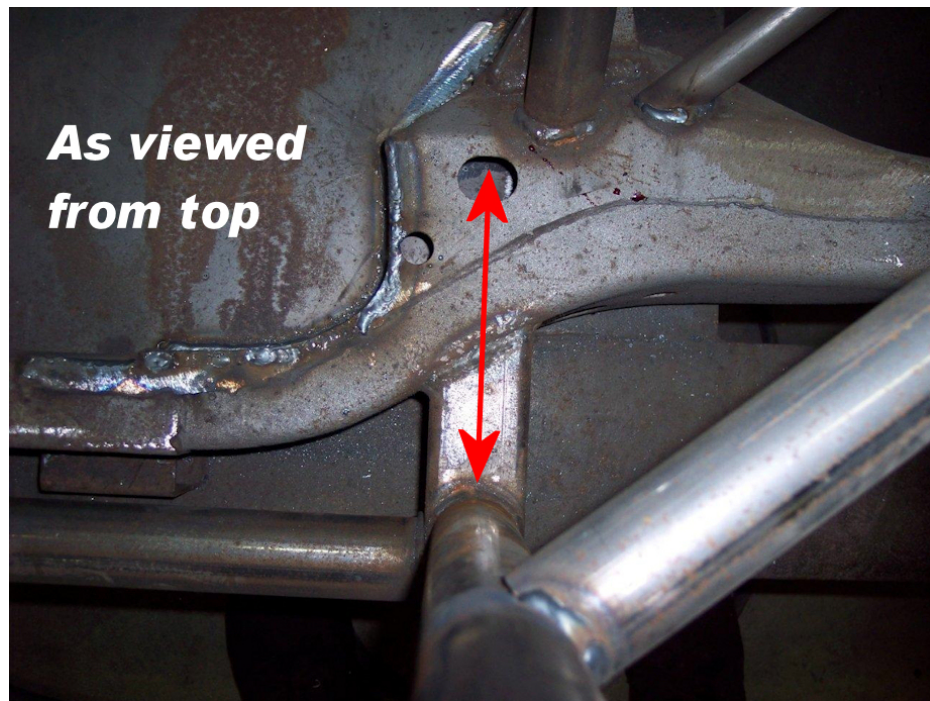
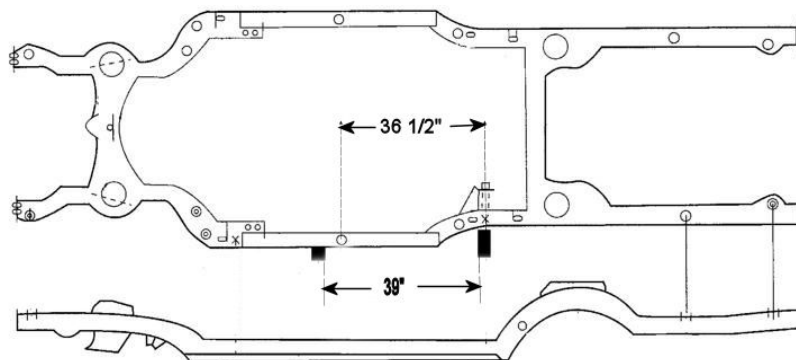

Fig 1
Fig 2
- Main hoop must be mounted exactly $36\frac{1}{2}$ " behind center body mount hole in OEM frame. Rear Main hoop must be mounted at a 90-degree angle to frame. NO lay back. Rear main hoop mounts onto frame extension (included in kit) and will align with oblong hole in OEM frame. (see fig. 1) The 39" bar (included in kit) must be used to space between rear main hoop and front down tube extensions. (see fig.2)